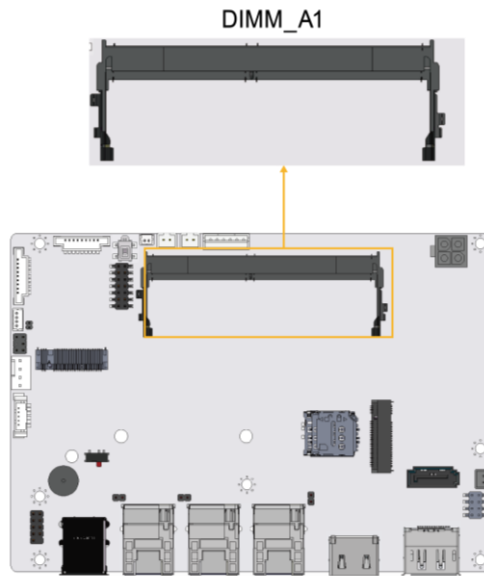

Figure 3-23: DDR4 SO-DIMM Socket Location
- CN Location:** See **Figure 3-23**